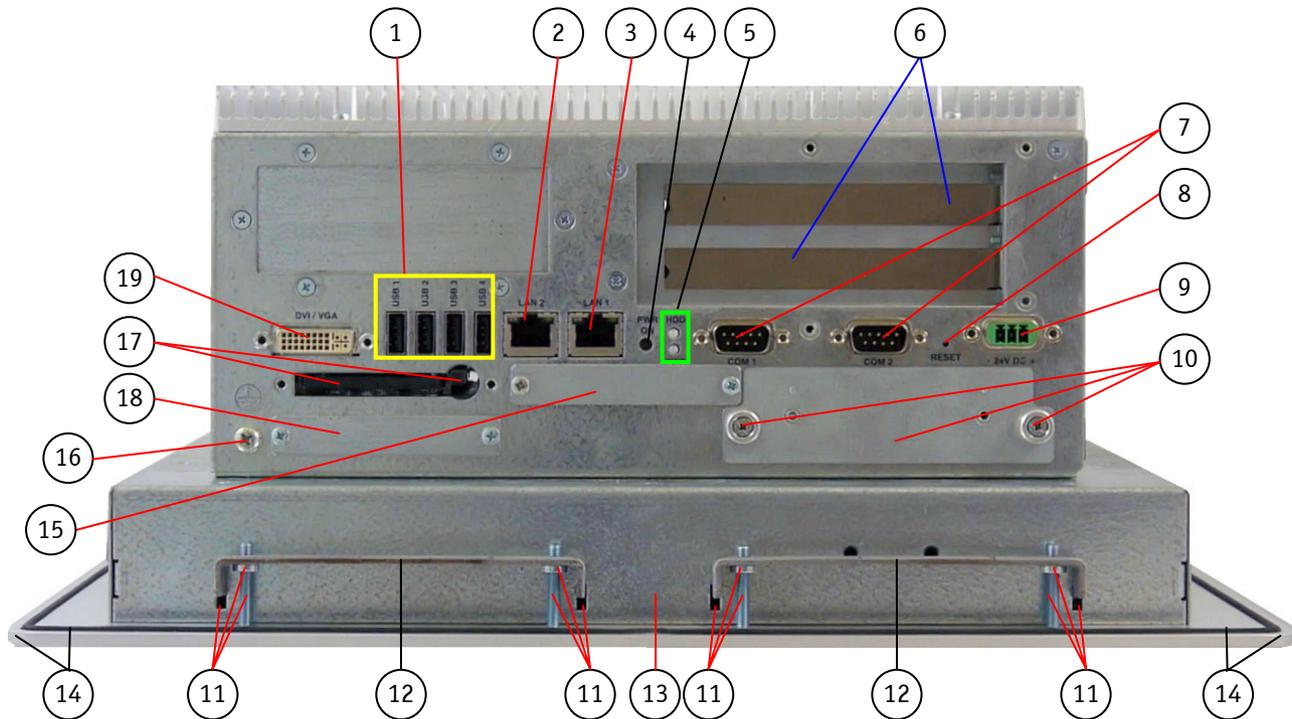
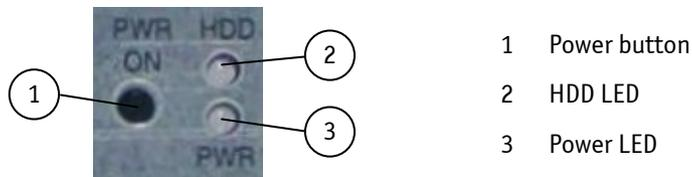
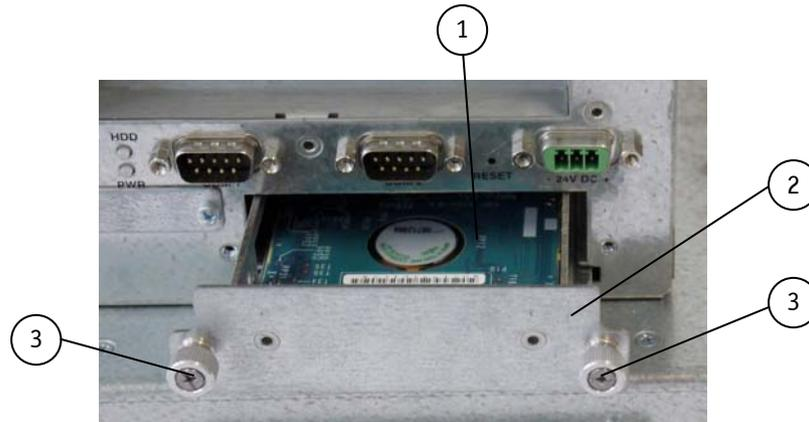

Fig. 8: V Panel Express (interface side)
Fig. 10: Power button and LED indicators
Fig. 12: Detail with drive tray for SATA HDD (shown with opened removable HDD drive tray)
The V Panel Express system is supplied with the 3-pin Phoenix power connector terminal (Fig. 34). The DC Power connector (Fig. 8, pos. 9 and Fig. 9) provides the power connection of the V Panel Express system to the main power source via a DC power cable (not included) or the AC/DC adapter (not included; refer to the subsection 6.1.1 “Optional Parts”). For pin-assignment of this connector refer to the section 13.1 “Power Connector”.
The power button “PWR ON” (Fig. 10, pos. 3) is located on the bottom side of the system (Fig. 8, pos. 4).
The chassis of the V Panel Express system must be grounded by establishing a **large-area contact** between the grounding screw M4x19 (DIN7985) with 2x lock washer M4 (DIN6797) (Fig. 8, pos. 16), and an appropriate grounding connection point. The minimum cross section of the grounding conductor is 1mm² (AWG 18).
The V panel Express is equipped with two LED indicators (Fig. 10, pos. 2 and 3) (bottom, rear side, Fig. 8, pos. 5).
The power LED (Fig. 10, pos. 3) shows the on/off state of the system and four important malfunction conditions of the system:
To restart the system, e.g. after a system hang-up, press the “RESET” button (Fig. 8, pos. 8). The system restarts automatically; you don’t have to switch the computer off and on.
The V Panel Express is equipped with a bottom side accessible CompactFlash™ slot with eject button (Fig. 8, pos. 18). The CF slot will accept only CF cards type I. The second CF slot (Fig. 8, pos. 15) is not equipped with the on board CF-socket.
The CF slots (CF1 always or/and CF2 without installed CF card) are covered by a slot cover as shown in Fig. 8, pos. 15.
The system is equipped at the front side with 4x USB 2.0 interface connectors (Fig. 8, pos. 1). These connectors provide connections for USB-compatible devices.
The DVI-I interface (Single Link) (Fig. 8, pos. 19) supports both digital and analog connections. Digital devices can be connected directly to this interface of the V Panel Express. Analog devices should be connected to this interface via a DVI to VGA adapter (not included).
These interface connectors (Fig. 8, pos. 2 and 3) are provided as RJ45 sockets with integrated LEDs.
The V Panel Express can be equipped with a removable drive tray (Fig. 8, pos. 10) for up two 2.5" SATA HDD/SSD. The drive cage is secured to the system with a knurled screw; (refer also to detail shown in Fig. 12).